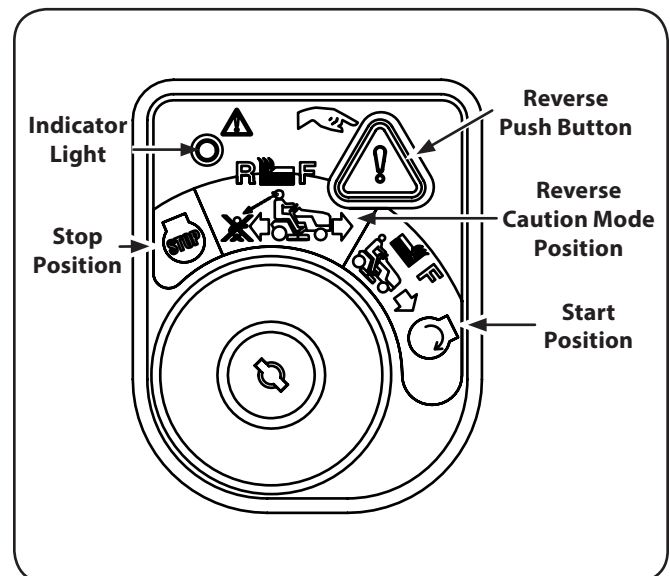

Figure 5-3
2. Turn the key from the NORMAL MOWING (Green) position to the REVERSE CAUTION MODE (Yellow) position of the key switch module. See Figure 5-3.
3. Press the REVERSE PUSH BUTTON  (Orange, Triangular Button) at the top, right corner of the key switch module. The red indicator light at the top, left corner of the key switch module will be ON while activated. See Figure 5-3.